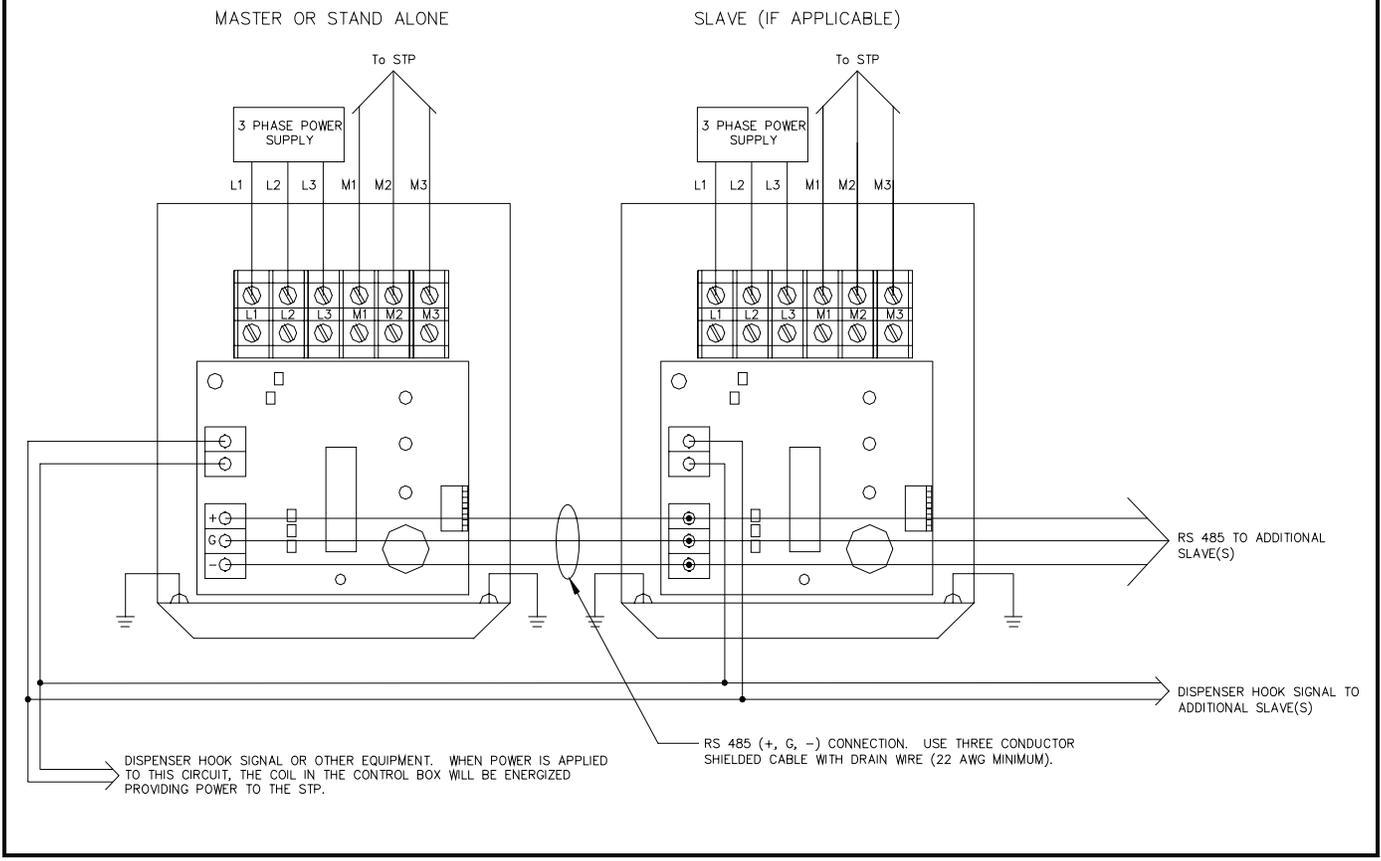

Figure 2
3. Connect input power of 208-230 V for STP-SCIII or 380-415V for STP-SCIIIC to L1, L2, L3 and Ground wire to terminals (see Figure 2). On High Capacity Pumps (3HP & 5HP) there is no need to connect the Thermal Overload wires (blue) coming from the pump as long as an STP-SCIII is being used and is calibrated properly.
1. (Fig. 2) Connect RS 485 (+, G, & -) to terminals. Connect drain wire of shielded cable to Ground (G) at one end only. Wire per NFPA 30A and NFPA 70. For the signal wires, use 18 AWG 3 conductor cable (300V min.), with conductors twisted and within a common jacket. Cut wires to length so that there is no excess wire touching circuit board components.
2. (Fig. 2) Connect hook between STP-SC's.